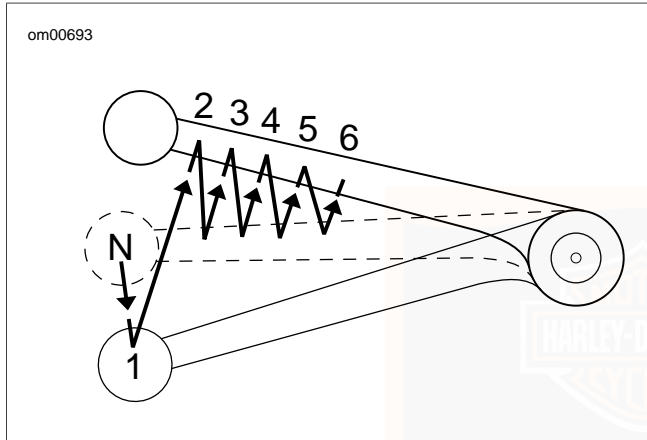

Figure 19. Upshift Pattern: Six Speed
3. See Figure 19. Lift the gear shift lever up to the end of its travel and release.